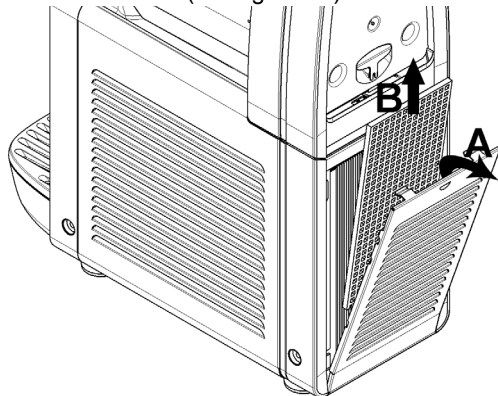

figure 21
- 3 Every month:** remove the dust from the condenser filter on the back of the machine (see figure 21).